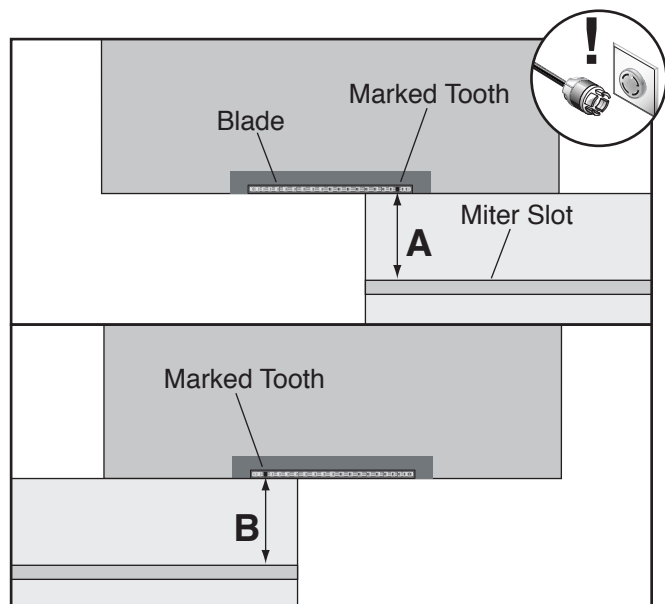

Figure 156. Measuring distance between miter slot and blade at each end of sliding table.
4. Move sliding table all the way forward, and measure distance "A" shown in **Figure 156**, which is between marked blade tooth and edge of sliding table miter slot.
5. Rotate blade 180°, move sliding table all the way back, then measure distance "B" shown in **Figure 156**.